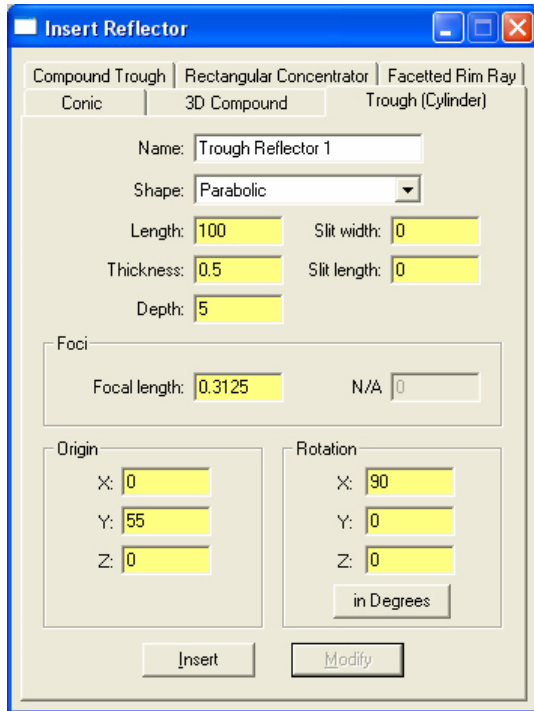

Figure 5. Parameters to Insert the Backlight.
2. Enter the values as shown in Fig. 5,